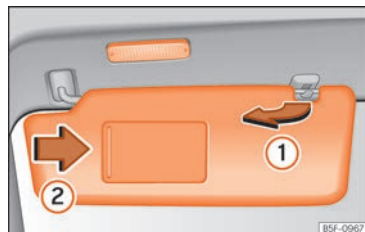

Fig. 91 Sun visor
- The sun visor can be pulled out of its mounting and turned towards the door » » Fig. 91 ①.